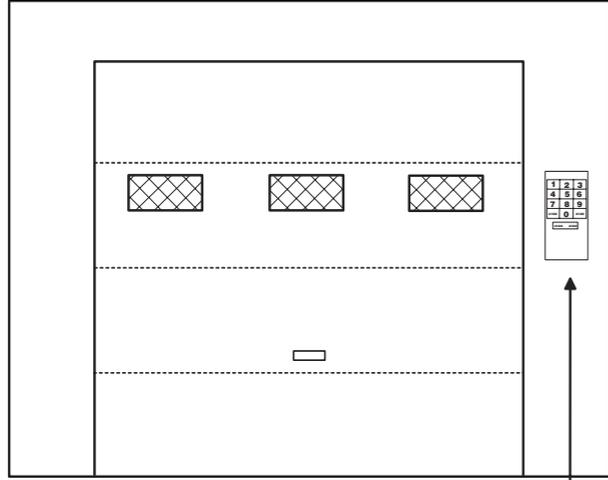

Figure 1
**Choose Mounting Location.** Choose a convenient location that does not interfere with the normal operation of the door, such as on the door jamb or on the wall adjacent to the door (See Figure 1). Note that some doors will swing up: be sure that in operating your Programmable Keyless Entry System, you will not be in the path of the door's travel. You may find that the keypad is too wide for some jambs.